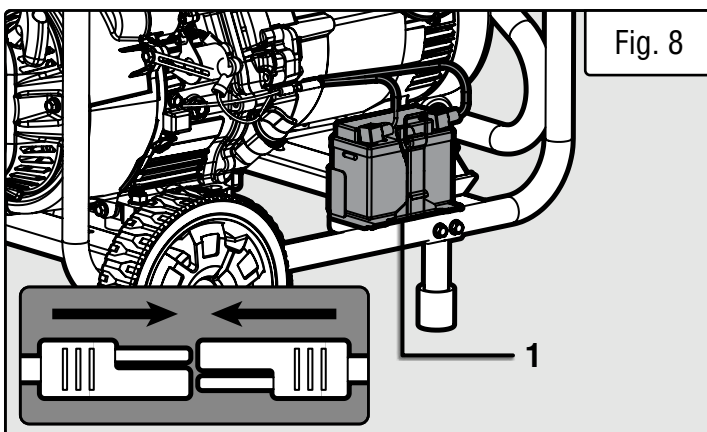

Fig. 8
1. Connect the two ends of the quick connector on the battery (Fig. 8 - 1) to connect the battery to the generator's system. Make sure the battery is secured to the generator frame by the battery strap.